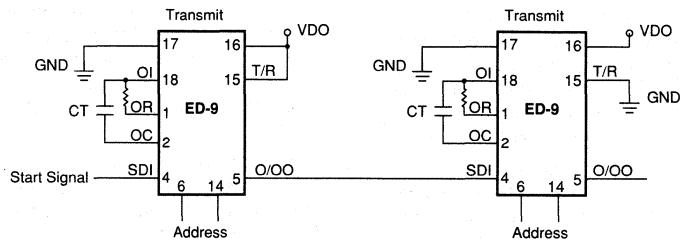

Figure 3. Address matching use.
The simplest use of the ED device is where one transmitter is used with one receiver. For address matching (such as a garage-door opener), the devices are used as shown in Figure 3. The start pulse is generated by a simple push-button. Switch bounce is not a problem because these devices "restart" the transmission each time the SDI pin pulses. Therefore, the last "bounce" will send a complete data packet, which will be received correctly. When the transmission is completed, the Data Valid (DV) pin goes high to